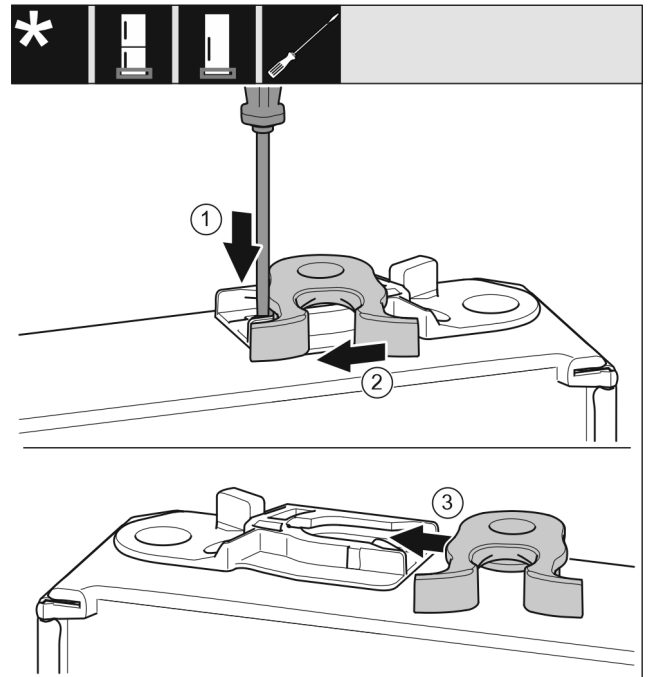

Fig. 24 *
- ▶ Use a slotted screwdriver to push the tab Fig. 24 (1) downwards.*
- ▶ Pull the closing hook Fig. 24 (2) out of the guide.*
- ▶ Insert the closing hook Fig. 24 (3) into the guide on the other side.*